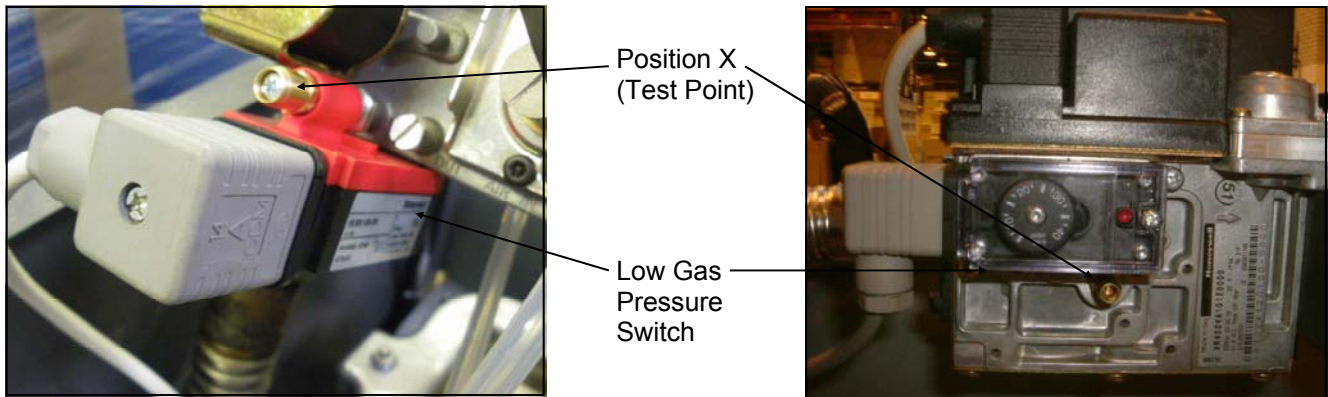

Figure 7.1.1 - Test Point Locations On Gas Valves
- 2) By unscrewing screw at Position X of Figure 7.1.1 remove the red gas pressure switch (L.H.S picture) or loosen the test point valve plug (R.H.S picture).